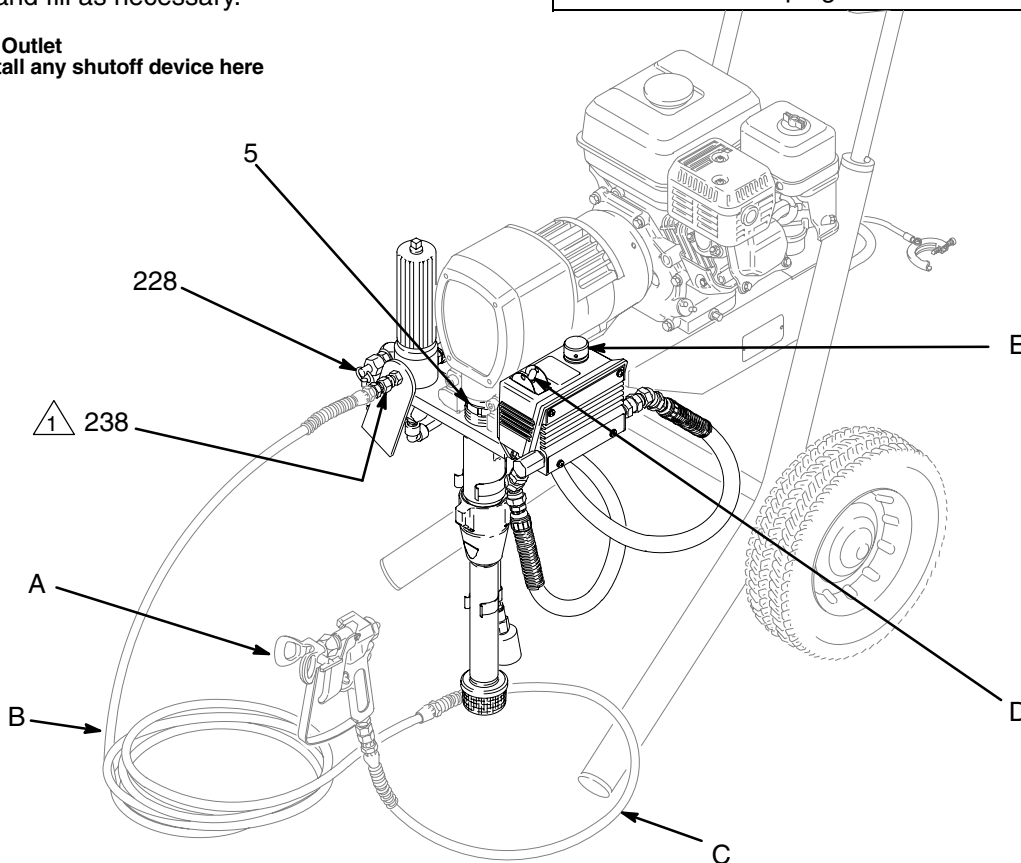

Fig 1
2. **Connect the hose and gun.** See Fig 1. Screw a minimum 50 ft. (15.2 m) main fluid hose (B) onto the swivel (238). Connect a 3 ft. (0.9 m) whip hose (C) between the fluid hose and the gun (A). Do not use thread sealant, and Do not install the spray tip yet!
6. **Two gun hookup** (See Fig 1.) Remove the cap (228) from the secondary hose outlet and attach a hose and gun to the 1/4 npsm(m) nipple.
3. Never install any shutoff device between the filter and the main hose. See Fig 1.